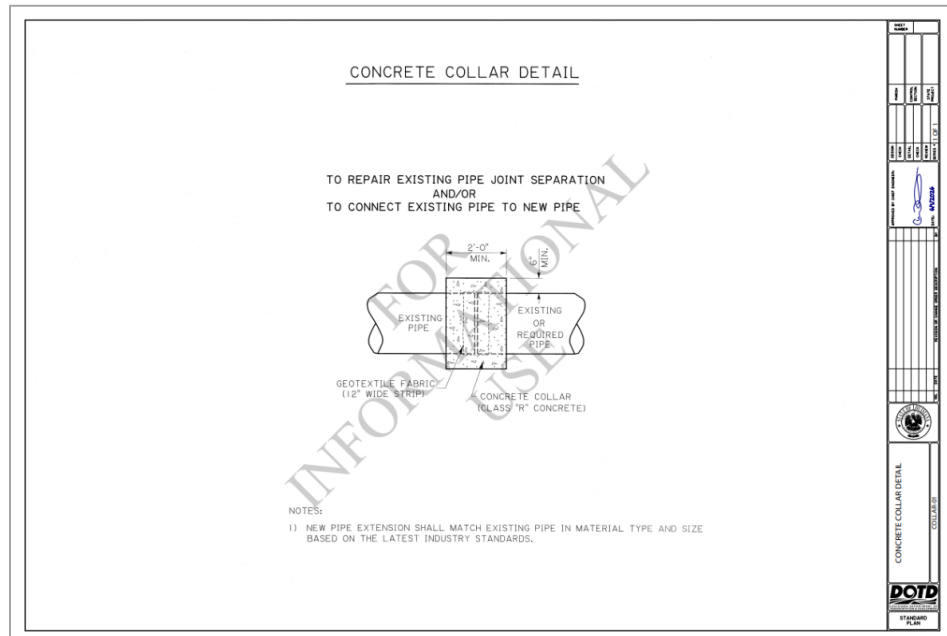

Figure 1.7: COLLAR-01, Sheet 1 of 1, "Concrete Collar Detail." Standard Plan dated 6/1/2026. Standard Plan Book (See Section 1.6.5 for Plan Sheet Details)
- COLLAR-01, Concrete Collar Detail. Required where connecting to an existing culvert (Figure 1.7).